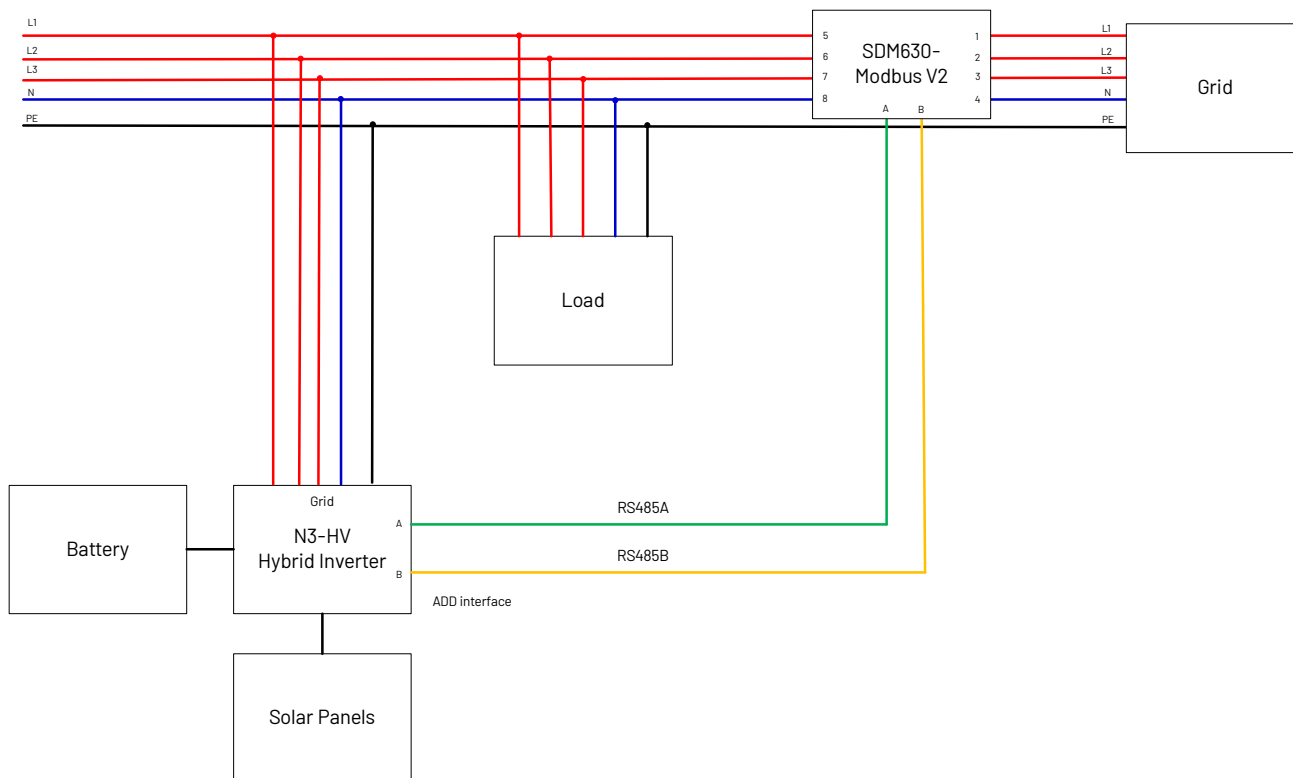

Figure 5-27
- 3) Connect one On-Grid three-phase inverter(Figure 5-27): The local address needs to be set as "001" on the inverter screen, and meter1 address set as "001", meter2 address set as "002". The address of meter1 itself needs to be set to "001", and meter2 needs to be set to "002".